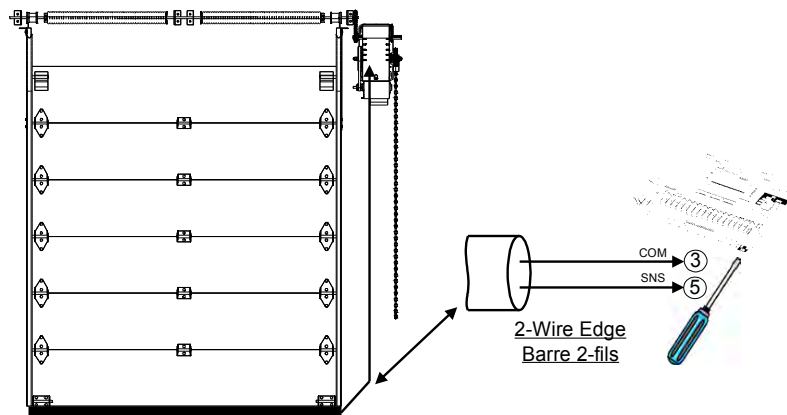

Figure 31 - Electric Reversing Edge
3. Use a coil cord or take-up reel to connect the sensing edge wires to the operator terminals. Install electric wires according to Figure 31.